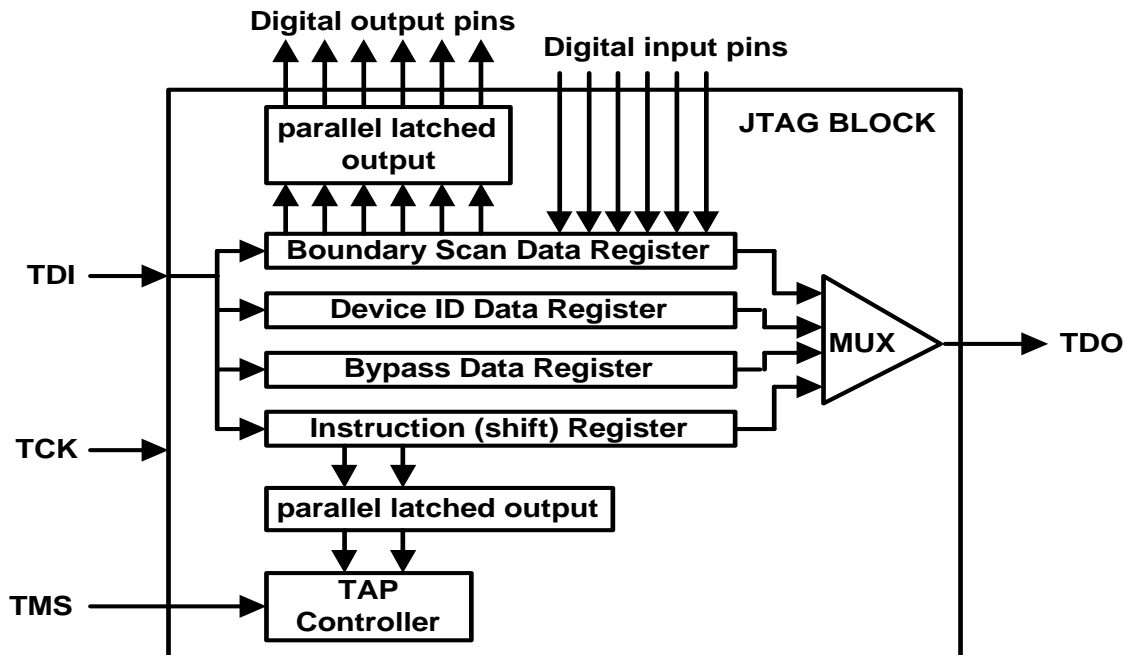

Figure 14. Test Access Port Architecture
The CS61880 supports the IEEE Boundary Scan Specification as described in the IEEE 1149.1 standards. A Test Access Port (TAP) is provided that consists of the TAP controller, the instruction register (IR), by-pass register (BPR), device ID register (IDR), the boundary scan register (BSR), and the 5 standard pins ( $\overline{\text{TRST}}$ , TCK, TMS, TDI, and TDO). A block diagram of the test access port is shown in Figure 14 on page 44. The test clock input (TCK) is used to sample input data on TDI, and shift output data through TDO. The TMS input is used to step the TAP controller through its various states.